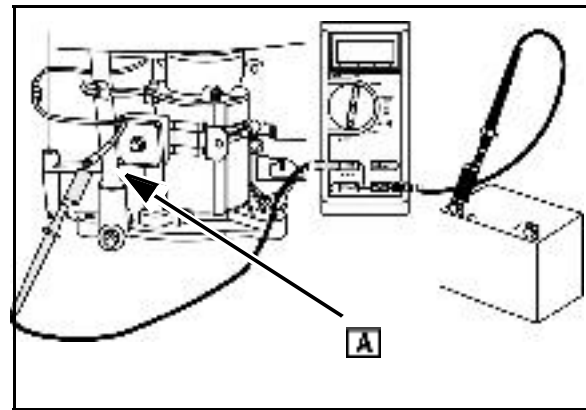

Fig. 21
2. Attach RED test lead clip to DC output terminal ([A] Fig. 21) on regulator-rectifier.